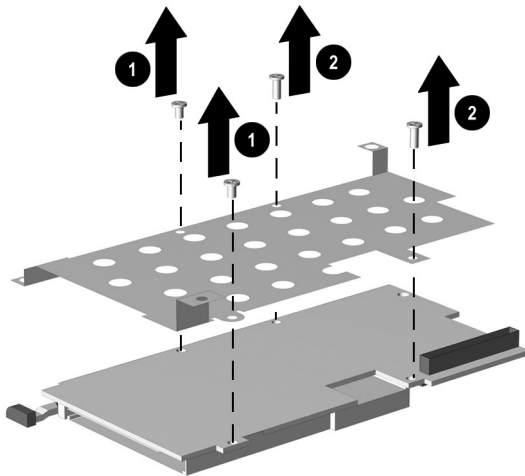

Figure 5-26. Removing the PC Card Assembly Shield
5. Remove the two PM1.5 × 8.0 screws ❶ and the two PM1.5 × 4.0 screws ❷ that secure the PC Card assembly shield to the PC Card assembly (Figure 5-26).